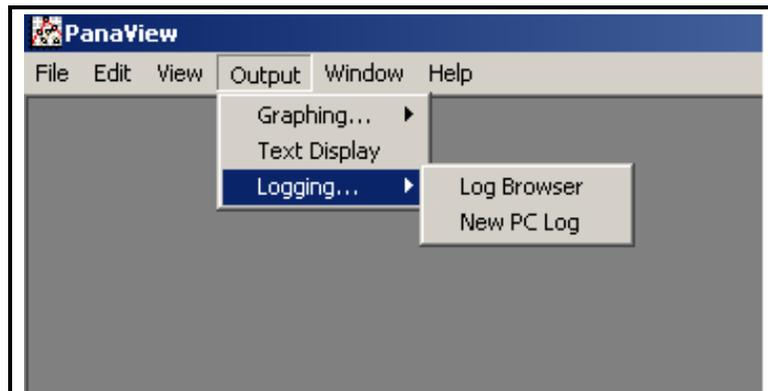

Figure 5-1: The *Log Browser* in the *Logging* Option
1. From PanaView, click on the *Logging* option in the *Output* menu. Then click on the *Log Browser* option, as shown in Figure 5-1 below.